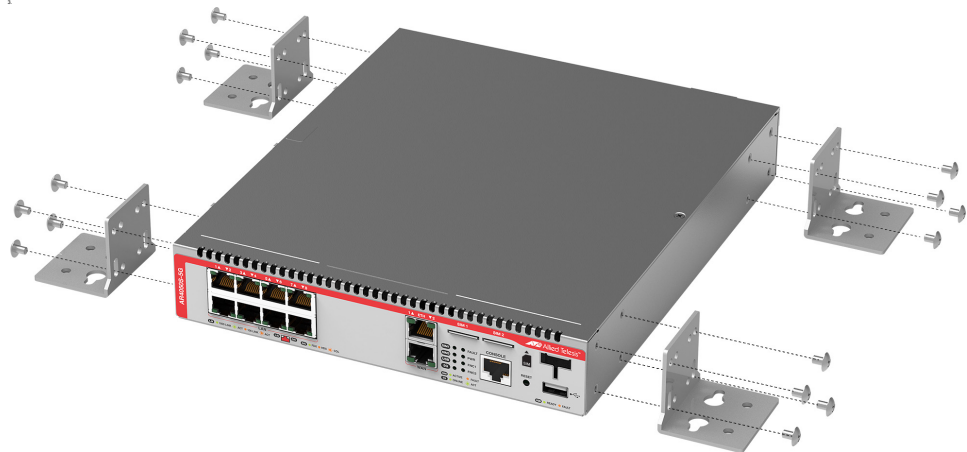

Figure 27. Attaching the wall mount brackets to the sides of the router
2. Orient the 4 brackets against the sides of the router, and secure them to the unit with the 16 bracket screws provided in the wall mount kit. See Figure 27.